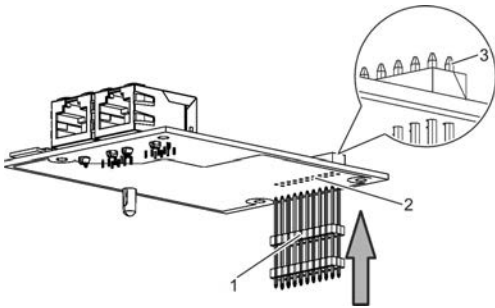

Fig. 8: Fitting the pin header
3. ▶ Take the pin header (Fig. 8/1) and push it with the longer ends from below through the EM-IP expansion module (Fig. 8/2).
Push the pin header just far enough such that the pins protrude slightly on the upper side (Fig. 8/3).